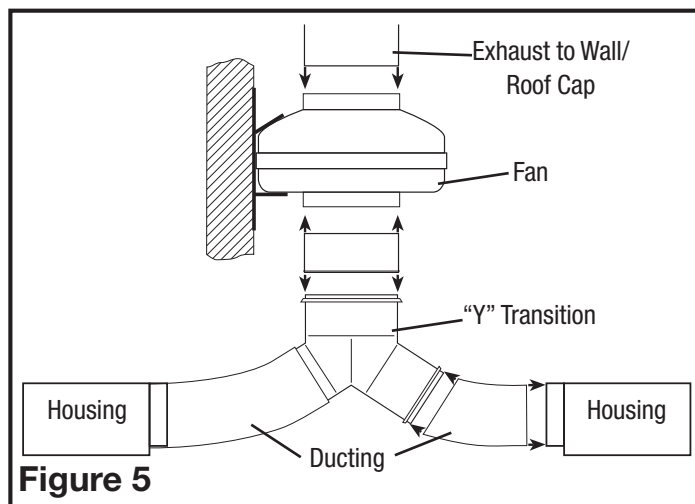

Figure 5
- Connect one end of the ducting (not included) to the room level collar/damper and the other end to the "Y" transition. Secure both ends in place using tape or a screw clamp to create as air tight a seal as possible. Repeat this step for the other room level grill housing (Figure 5).
3. Connect one end of the ducting to the top of the "Y" transition and the other end to the intake of the fan (Figure 5).
4. Connect one end of the ducting to the exhaust of the fan and the other end to a wall or ceiling cap (Figure 5). Always duct the fan to the outside through a wall or roof cap.